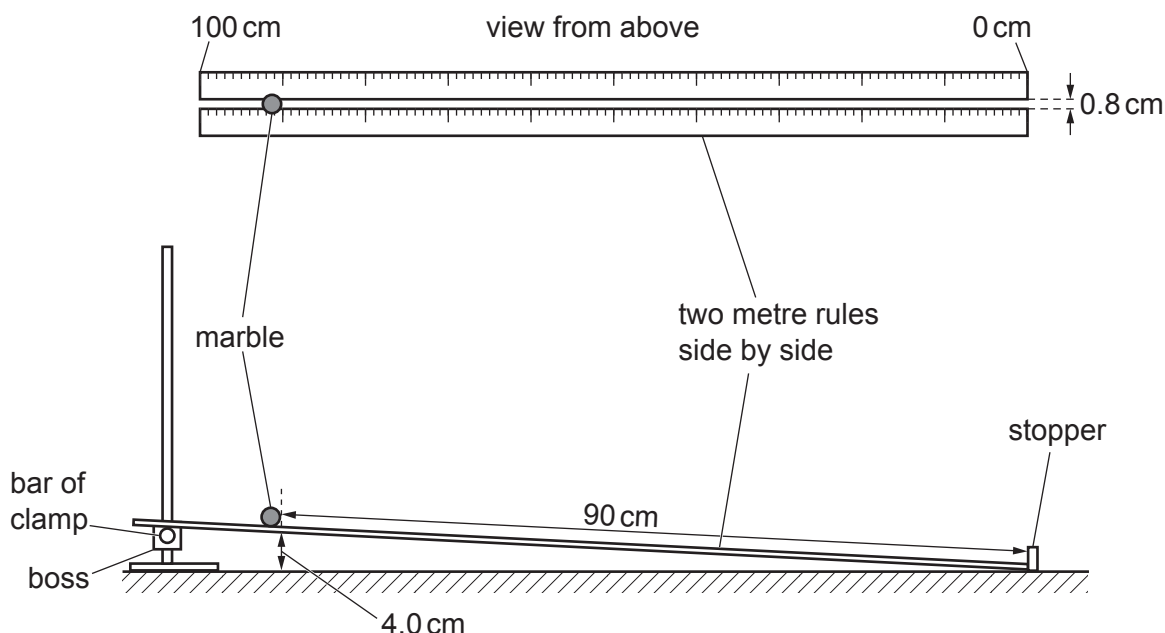

Fig. 3.1
- 2 metre rules arranged as shown in Fig. 3.1 with a small gap between them to act as a ramp for a marble to roll down (see Note 1)
The two metre rules should be set up as shown in Fig. 3.1, making a ramp ready for the candidate to use. The ramp should be 4.0 cm above the bench at its 90 cm mark. This is achieved by adjusting the height of the clamp. The marbles should be placed in the small dish and left by the side of the ramp arrangement.
Ensure the apparatus is set up as in Fig. 3.1.